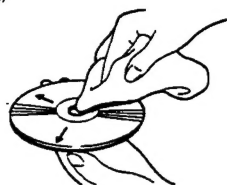

Fig. 8
- Dust and/or finger smudges will have no direct effect on the signal recorded on the disc, but dirt can decrease the amount of light reflected from the recorded surface, thus affecting sound quality. If the disc should become soiled, gently wipe the surface with a soft lint-free cloth, wiping from the center of the disc to the edge. (Fig. 8)